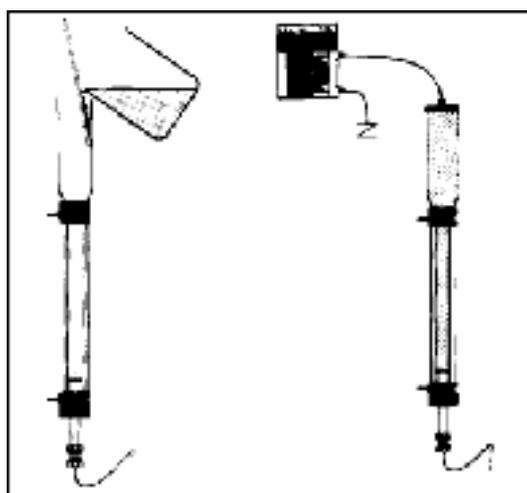

Fig. 1. Packaging the column with GFM.
9. Re-suspend and pour the gel slurry into the column in one continuous motion. Pouring down a glass rod held against the wall of the column prevents from air bubbles (Fig.1). Try gel slurry to flow along the column wall.